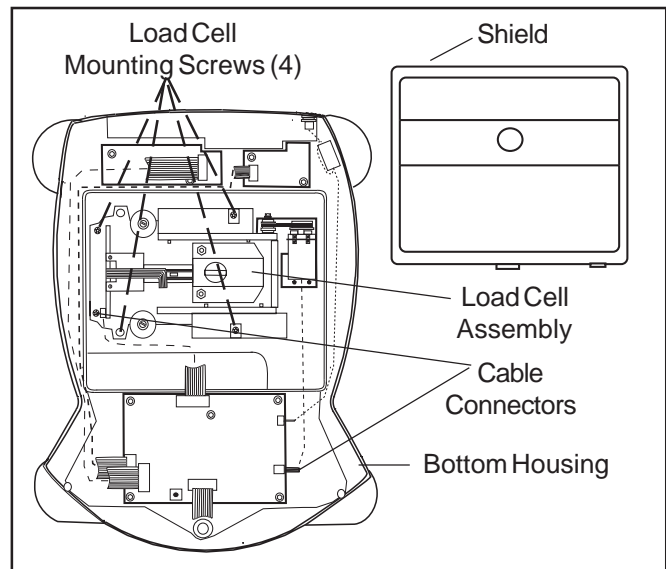

Figure 3-12. Removing Strain Gauge Load Cell.
Load Cell Kits are available for replacement purposes for all AV model balances. Each Kit is fully assembled and consists of metal base plate, a Load Cell mounted to the base plate and a package of labels. All adjustments such up stop and down stop (limits travel of the Load Cell to safe limits) have been factory set. Check the label on the balance and verify the capacity and model before ordering a new load cell kit. Figure 3-12 illustrates a typical strain gauge location.
3. Remove the 4 screws and washers that secure Load Cell to the Bottom Housing. See Figure 3-12. Remove the Load Cell.